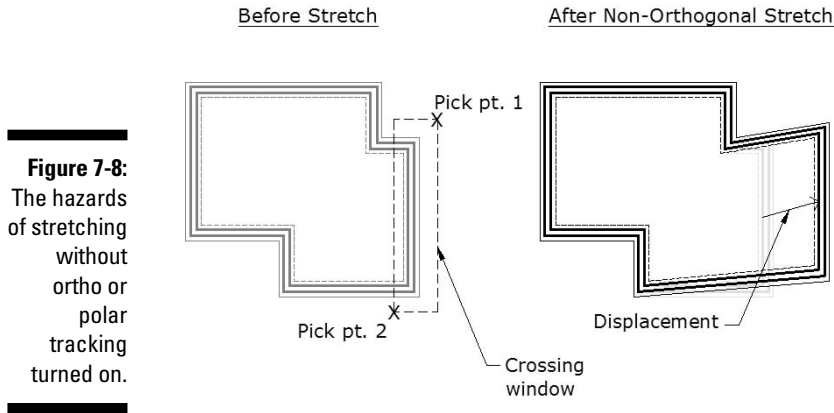

Figure 7-8:
- ✓ You usually want to turn on ortho or polar tracking mode before stretching. Otherwise, you'll end up stretching objects in strange directions, as shown in Figure 7-8.